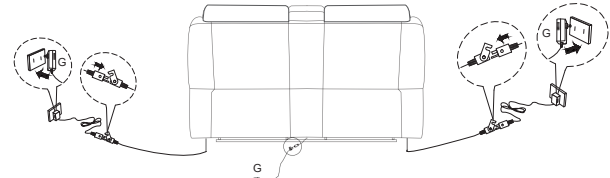

Figure 6
Connect all three of the power cables from the bottom of the Seat (D) to a Transformer (G), then plug the Transformers (G) into the nearby outlets. (See Figure 6.)